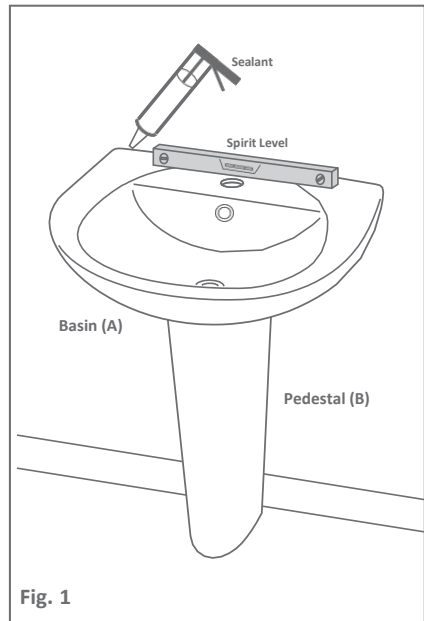

Fig. 1
2. Place the basin (A) on the pedestal (B) close to the wall and gently manoeuvre into the final installation position. Ensure that the basin is level using a spirit level and is flush against the wall. (see **Fig. 1**).